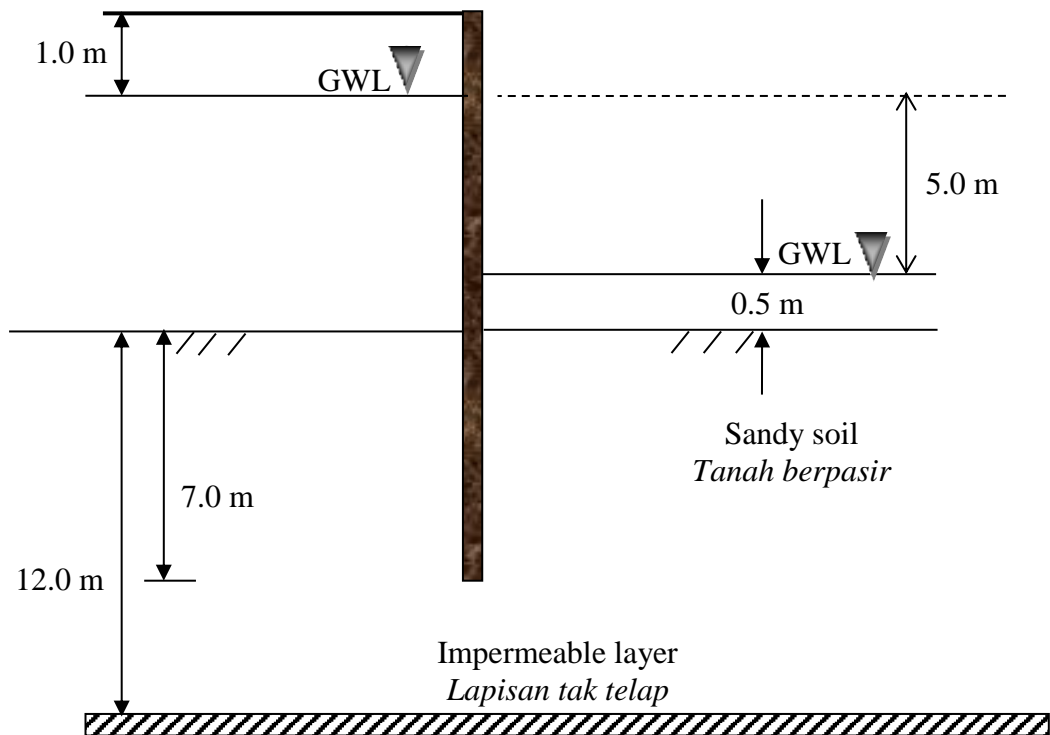

Figure B3(a) / Rajah B3(a)
- (a) **Figure B3(a)** below shows one dig of sheet piling on sandy soil. If the coefficient of permeability (k) is 7.2×10^{-3} mm/sec, determine the quantity of seepage, Q in $\text{m}^3/\text{hour}/\text{m}$ length.